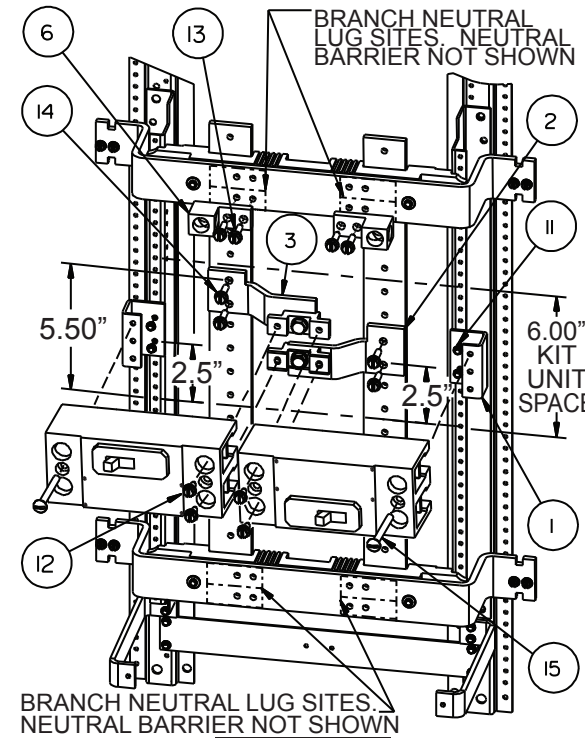

Figure 2
5. Refer to Figure 2: Fasten the breaker supports (Item 1) to the base rails in the center of the 6" kit unit space with four #8-32 screws (Item 11). Fasten the Type A outer connector (Item 2) and the Type B outer connector (Item 3) to the panel bus with four 1/4"-20 x 1" screws (Item 14).